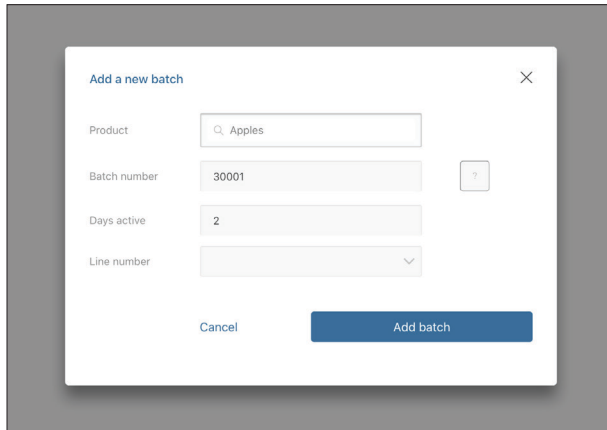

**Figure 45** Batches window
3. Select the plus symbol on the Batches screen to add a Batch (Figure 45). This will open the Batches screen (Figure 46).